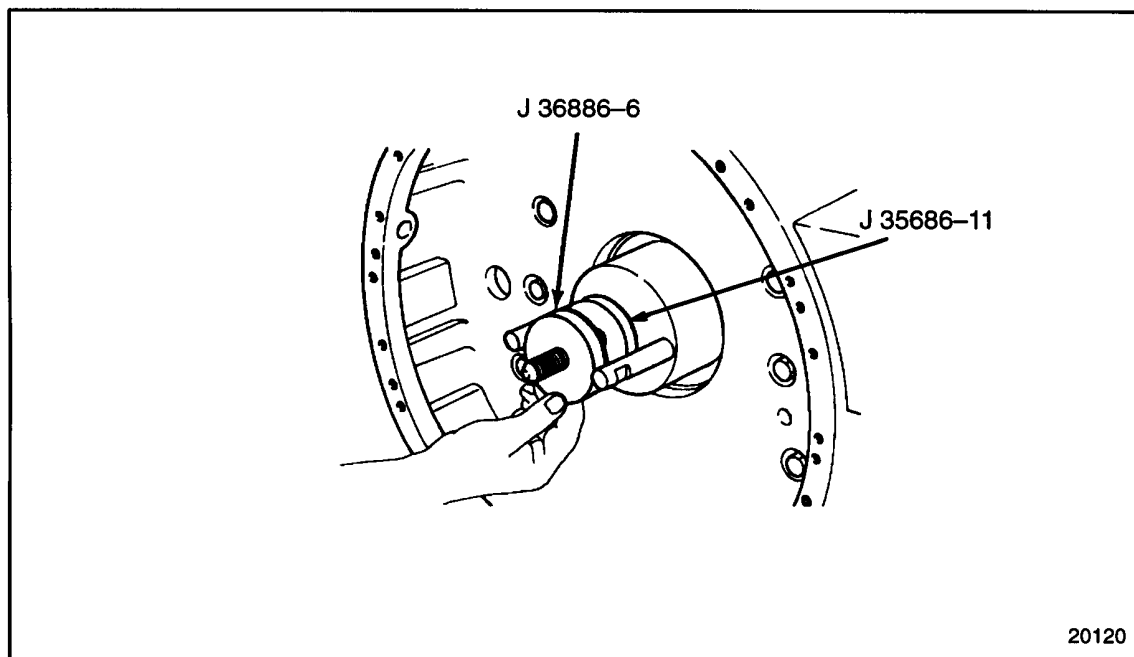

Figure 1-133 Rear Oil Seal Installation
2. For rear crankshaft oil seal installations only, install spacer J 35686-6 and J 35686-11, to the center screw of the base. See Figure 1-133 and see Figure 1-131.